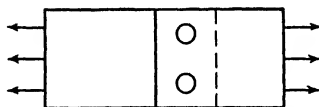

Fig. 321.—Two  $\frac{1}{16}$ -in. S.A.E. X-4130 rivets.
91. What is the strength in shear of the lap joint shown in Fig. 321?